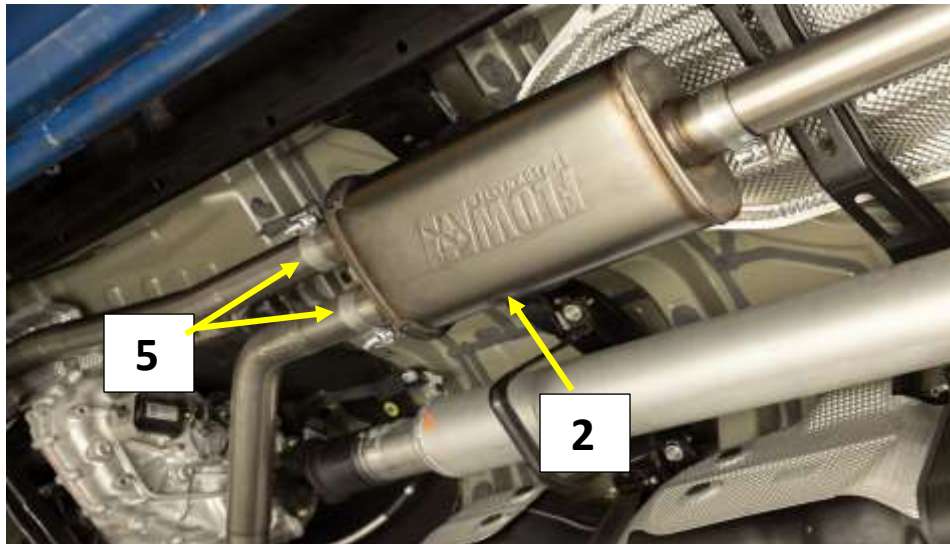

Figure 5
5. Install a 2.5" band clamp (5) on each Muffler inlet with the bolt to the outside and the nut facing the ground. **Fig.5**
6. Install the muffler (2) onto the inlet pipes with the hanger rods on the top, support the muffler. **Fig.5**
7. Install the (2) rubber isolators located over the muffler. Slide the isolator on to the muffler and vehicle hanger rods at the same time. Tighten the clamps (5) to allow for adjustment. **Fig.5**